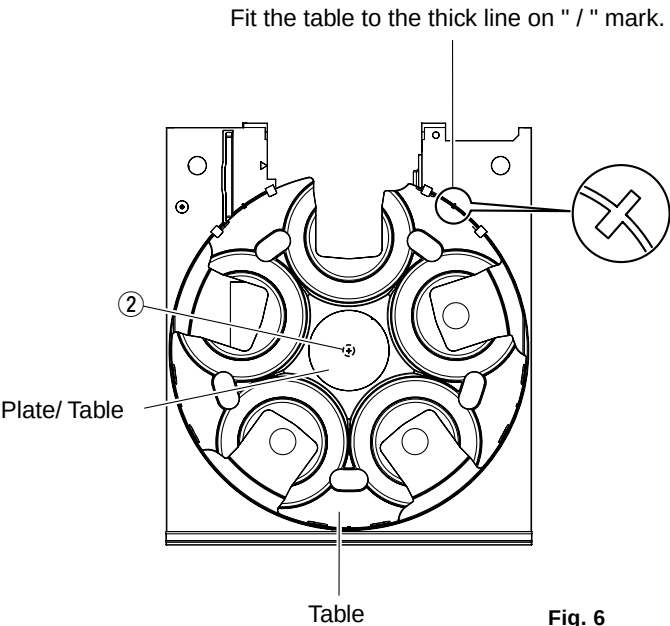

Fig. 6
- Remove the Plate/Table in Fig. 6.
- Remove 1 screw (②) and then take off the Table in Fig. 6.
- Install the Table by aligning it to the thick line on " / " mark. (Fig.6)